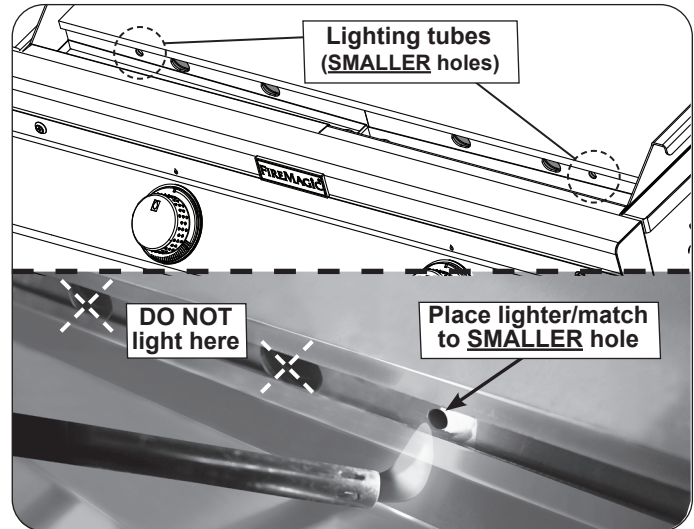

Fig. 35-3 - Manual lighting
2. Hold a burning long-barrel butane lighter or burning long-stem match up to the opening of the lighting tube (**SMALLER hole**) **for 5 seconds**. Then depress the appropriate control knob and while pressing turn it counterclockwise to the **HI LIGHT** position. Remove the lighter or match when the burner lights, and release the control knob. See Fig. 35-3.
4. If the burner does not light within five (5) seconds of turning the control knob, **immediately depress the knob and turn the valve to OFF**. WAIT FIVE (5) MINUTES before repeating steps 2 through 4 of the MANUAL LIGHTING instructions.